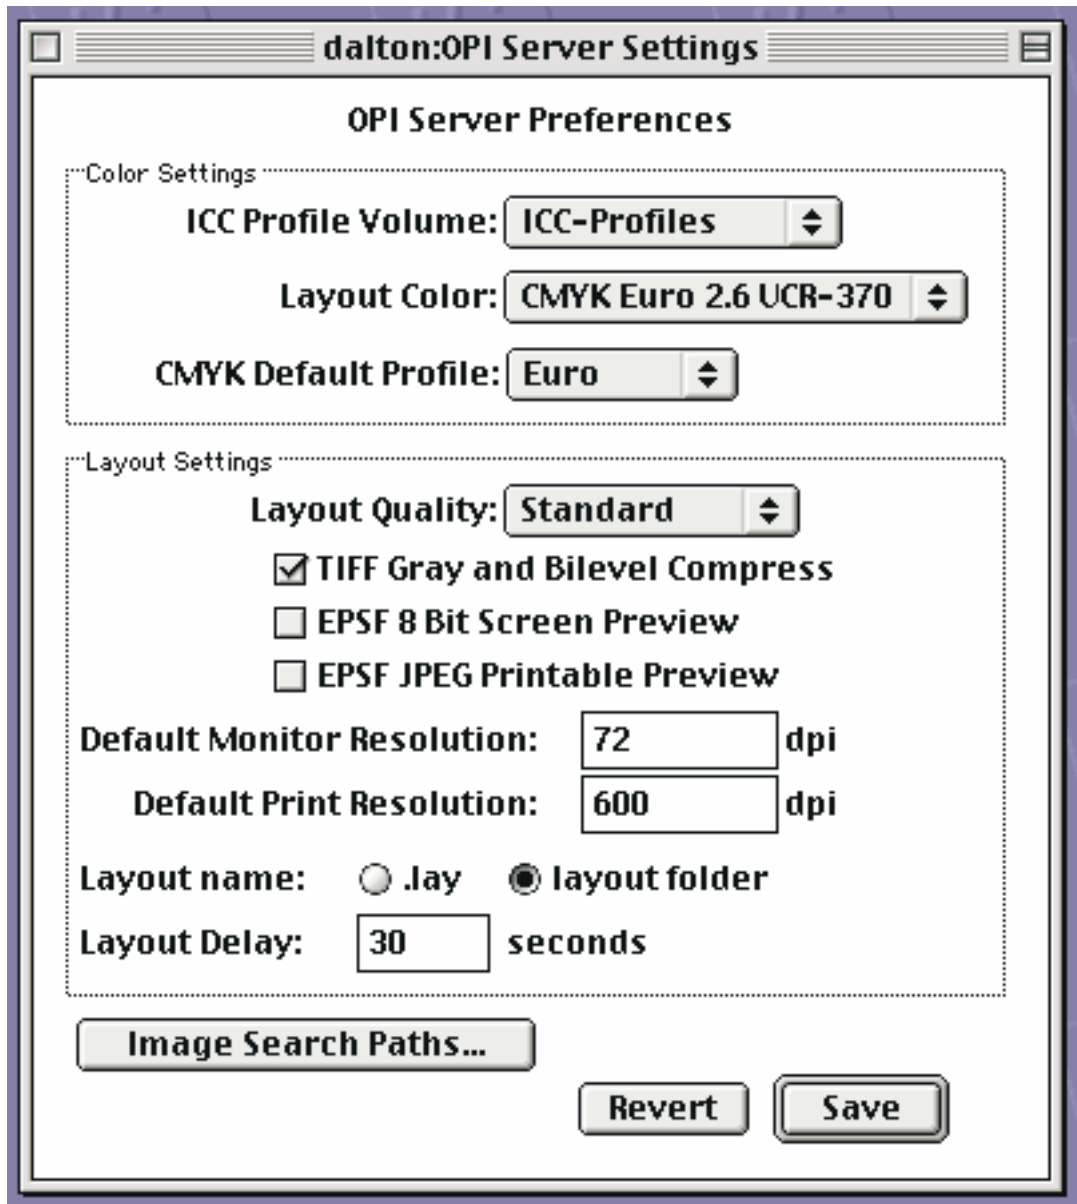

Figure 36. OPI Server Settings window
- Once you have created the print queue, use the **Lists → OPI/Server Settings** path on the main menu to display the layout and color settings. Usually the default values are sufficient. From the window displayed in Figure 36 on page 145 below, select a name for your print queue and take the defaults before pressing the **Save** button.